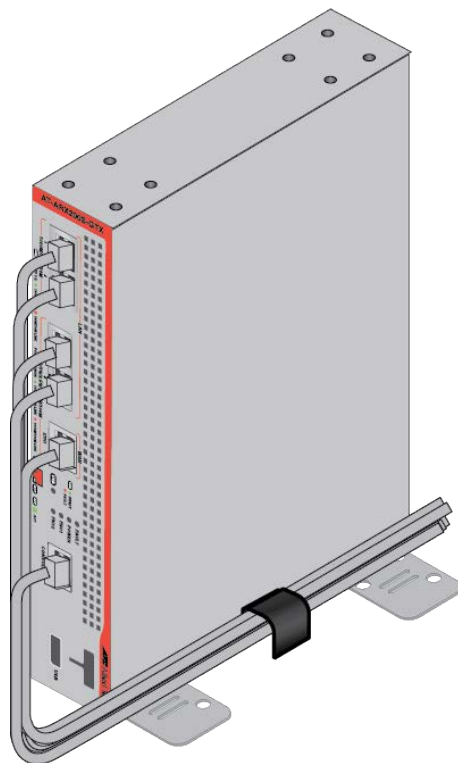

Figure 28. Securing the Router Cables
10. After cabling the router, you can secure the cables with the hook-and-loop fastener. Refer to Figure 28 on page 62.